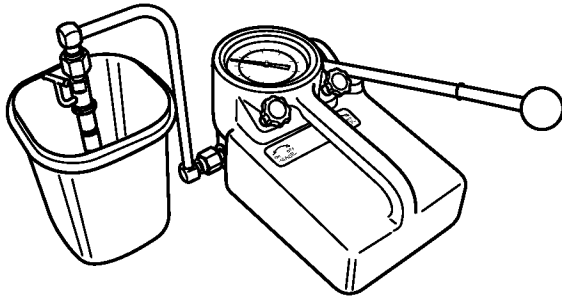

Figure 6-83
4. Pump the operating lever of the tester slowly, observing the pressure reading at the point where the fuel injector begins spraying fuel (**Figure 6-83**).